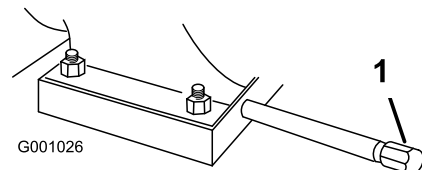

Figure 32
- Clean the area around the oil-drain cap (Figure 32).